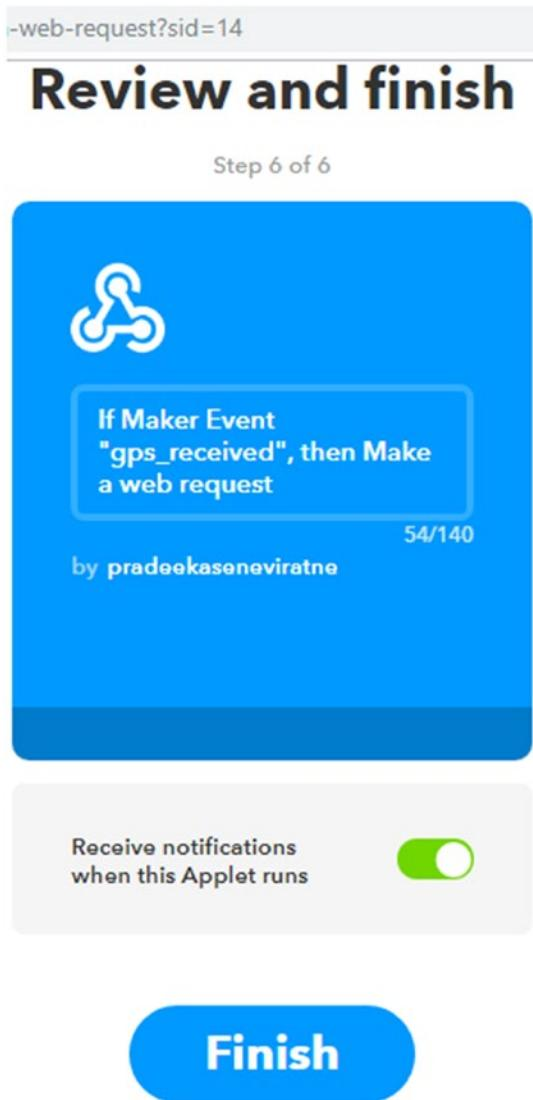

Figure 8-35. Confirming the recipe
17. On the “Review and finish” page, click the Finish button to save the recipe (Figure 8-35).